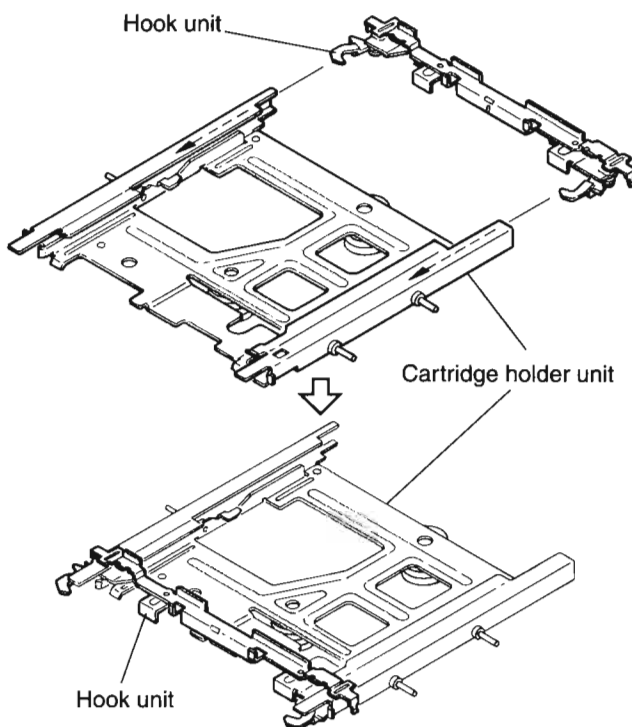

Fig.18
- Insert the Hook unit into the Cartridge holder unit along the rail (see Fig.18) until the Hook unit is locked.